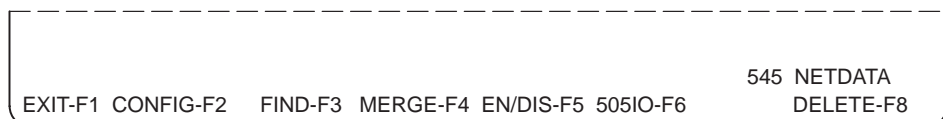

Figure 6-2 Off-Line PROFIBUS-DP Slave Status Function Key Line
3. If the status display is set to Series 505 I/O, press PRO-DP-F6 to toggle the display to PROFIBUS-DP I/O. See Figure 6-2.